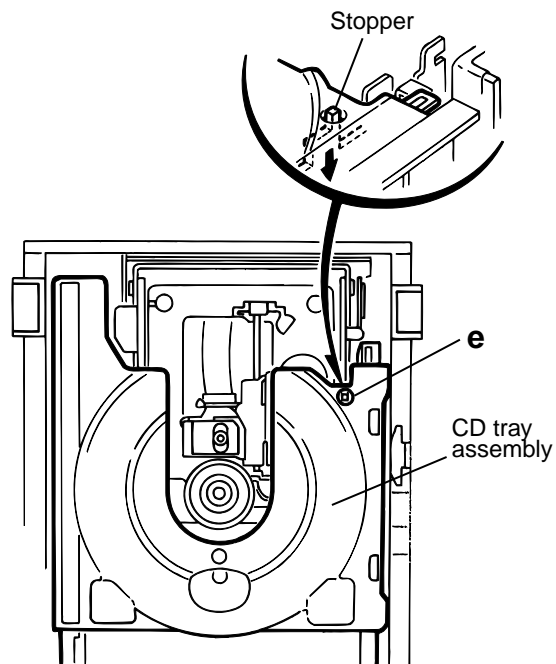

Fig.5
11. Check whether the lifter unit stopper has been caught into the hole at the section "e" of CD tray assembly as shown in Fig.5.